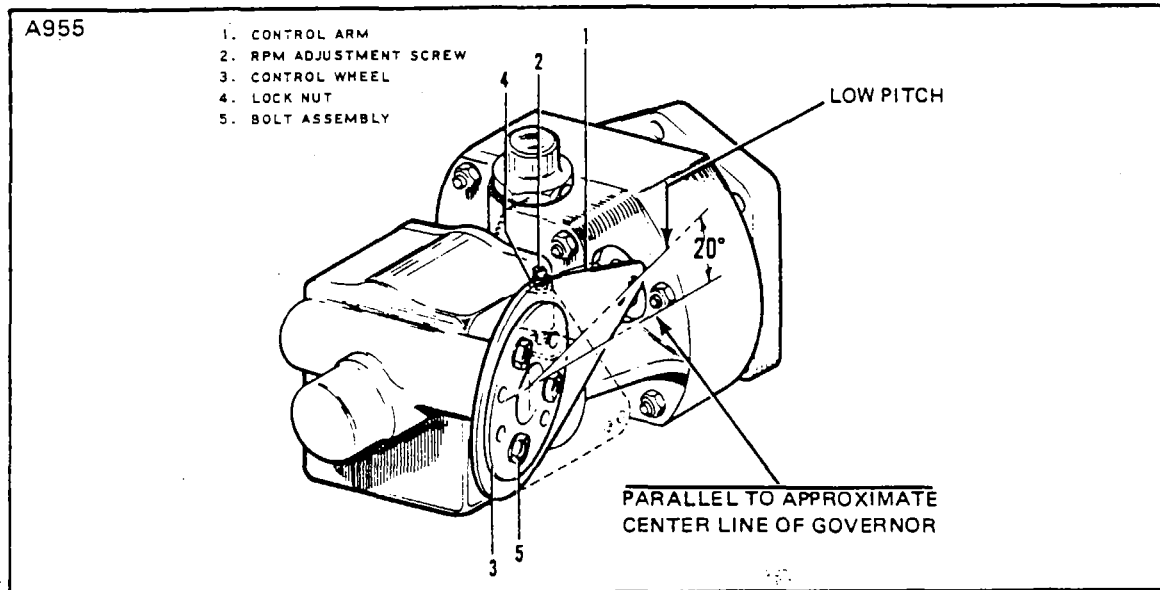

Figure 7-3. Propeller Governor
7-13. RIGGING AND ADJUSTMENT OF PROPELLER GOVERNOR. (Refer to Figure 7-3.)
5. Ascertain that the governor control arm (1) is adjusted to the proper angle on the control wheel (3) as shown in Figure 7-3.